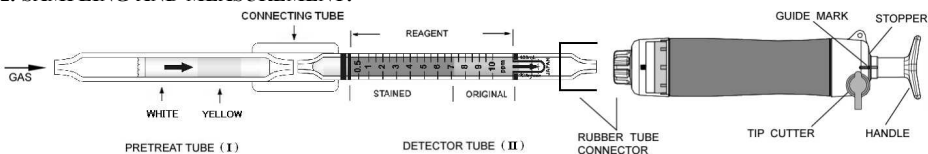

Fig.1
- ① Break both ends of the detector tube (II) and pretreat tube (I), and connect each end of the detector tube and pretreat tube with connecting tube as shown in Fig.1.
- ② Insert the detector tube into the aspirating pump securely as shown in Fig.1. (Arrow mark shall point to the pump.)
- ③ Align the guide marks on the shaft and stopper of the aspirating pump.
- ④ Pull the pump handle at a full stroke until it locks and wait for 1.5 minutes or until the completion of sampling is confirmed with the flow indicator of the pump. (See descriptions about the flow indicator in the instruction manual of the pump.)
- ⑤ On completion of sampling, read the scale at the maximum point of the stained layer.